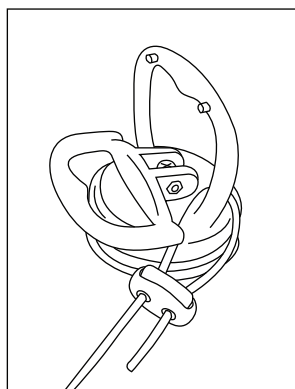

FIGURE 1
- i. Place suction cup into the disengaged position (down position) (FIG. 1)